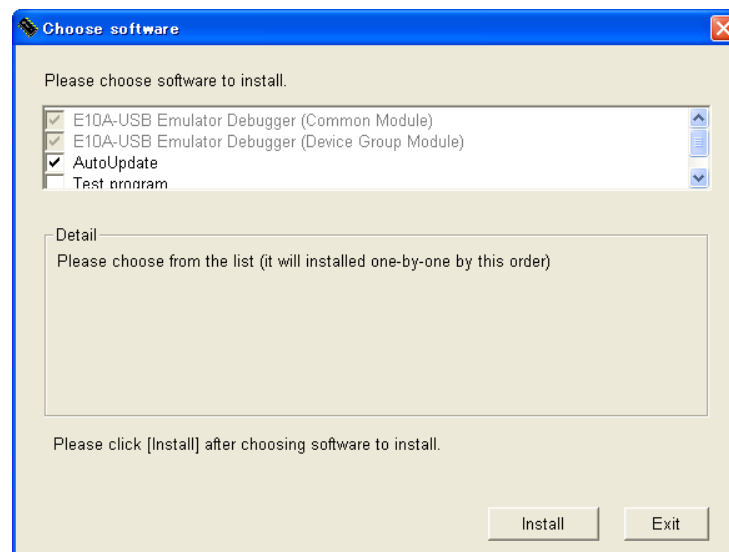

Figure 3.2.2 E10A-USB Software Installation Procedure (2/7)
(2) Following dialog box will appear as Figure 3.2.2. Tick the checkbox of the software to install and click "Install".